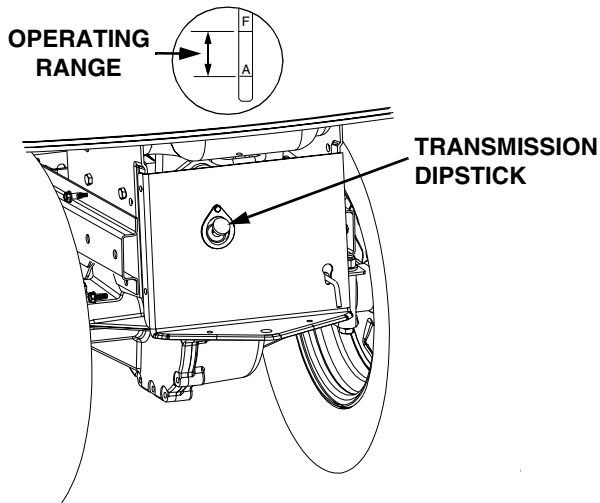

Figure 20
Check the oil level of the transmission case before each use to see that it is filled to the correct level. Before checking the transmission oil level, clean the area around the oil fill plug/dipstick to prevent debris from entering the transmission case. Always keep the oil level between the “FULL” and the “ADD” marks on the dipstick (See Figure 20). When checking the oil level, the dipstick must be withdrawn and wiped clean, then inserted all the way before being withdrawn for a true reading.
3. Remove the oil fill plug/dipstick from the oil fill port and SLOWLY pour oil into the oil fill port. Fill the transmission case until the oil level reaches the “FULL” mark on the dipstick (Refer to Figure 20).
- Remove the oil fill plug/dipstick from the oil fill port and SLOWLY pour oil into the oil fill port. Fill the transmission case until the oil level reaches the "FULL" mark on the dipstick (Refer to Figure 20).